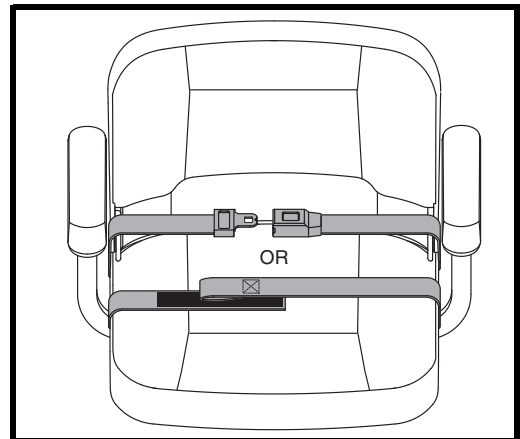

Figure 17. Positioning Belt - Metal Tab Style or Reusable Hook and Loop Fastener Style
1. Insert the metal tab on the right side of the belt into the plastic housing on the opposite strap until you hear a “click.” See **figure 17**.
1. Align the two sides of the belt placing the looped-end side directly above the coarser side (“hook”) of the opposite belt. Press firmly together to fasten. See **figure 17**.